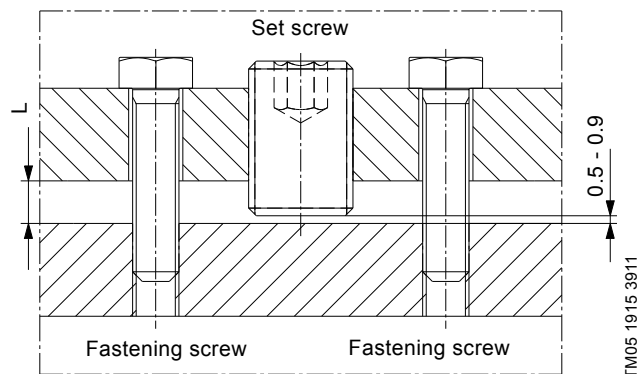

Fig. 11 Impeller clearance adjustment
3. Loosen the set screws and draw back the inlet cover by between 0.5 and 0.9 mm using the six fastening screws (approx. one 270 ° turn of an M12 fastening screw) and the distance "L" as reference. See fig. 11.